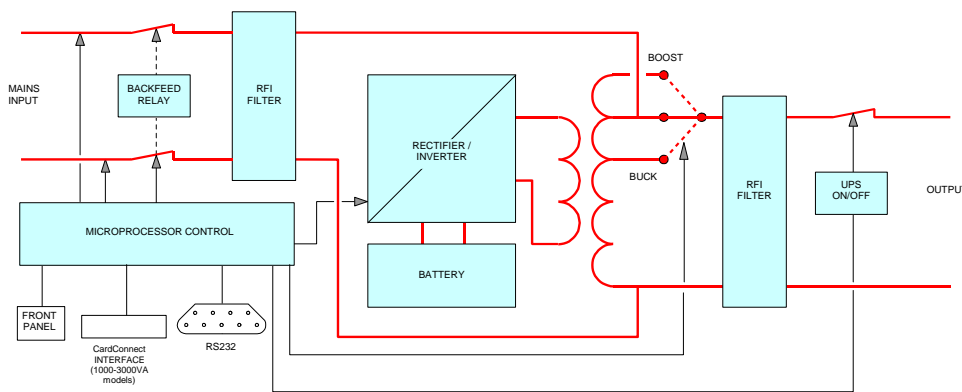

Figure 1 Block diagram of the Match 19" UPS
The Match 19" UPS stores electric energy in batteries housed in the unit. This allows the UPS to supply output power even when the incoming mains power is cut off completely. Energy is stored as Direct Current (DC), while input and output energy must be Alternating Current (AC). Therefore the UPS contains a rectifier (to convert from AC to DC) and an inverter (to change energy from DC to AC). (See fig.1)